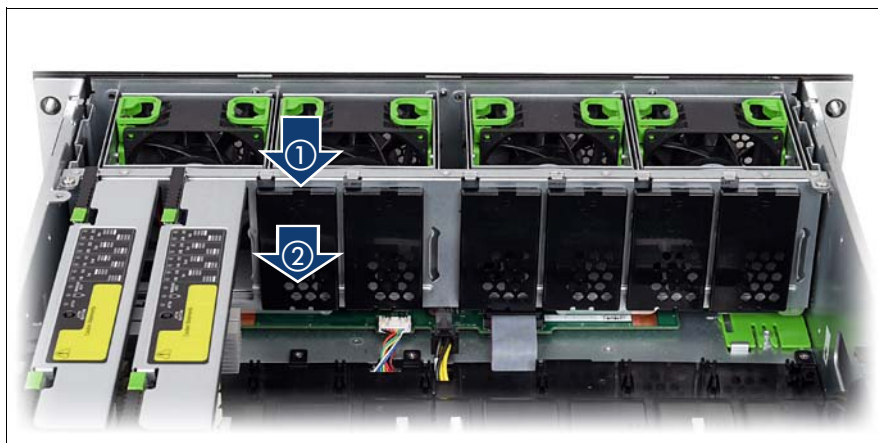

Figure 33: Removing the memory air baffle to add a memory board
- ▶ Plug the memory board in such a way into the respective slot that it will be guided within the guiding rails on both sides. Move the memory board as far as it will go into its slot (1).
- ▶ Carefully press the memory board into its slot (see figure 33 on page 114).
- ▶ Press both handles downwards (2) so that both green release tabs engage.